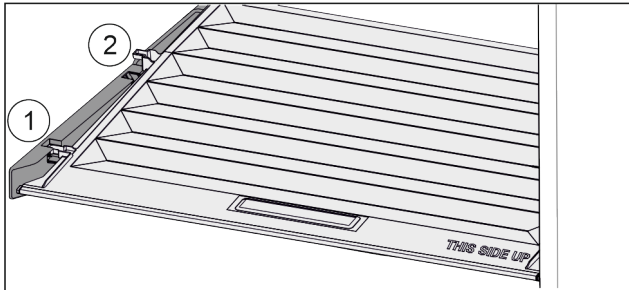

Fig. 91
- ▶ Pull the lid up at the front to the opening in the retaining parts Fig. 91 (1).
- ▶ Lift from the back and pull it up and out Fig. 91 (2).